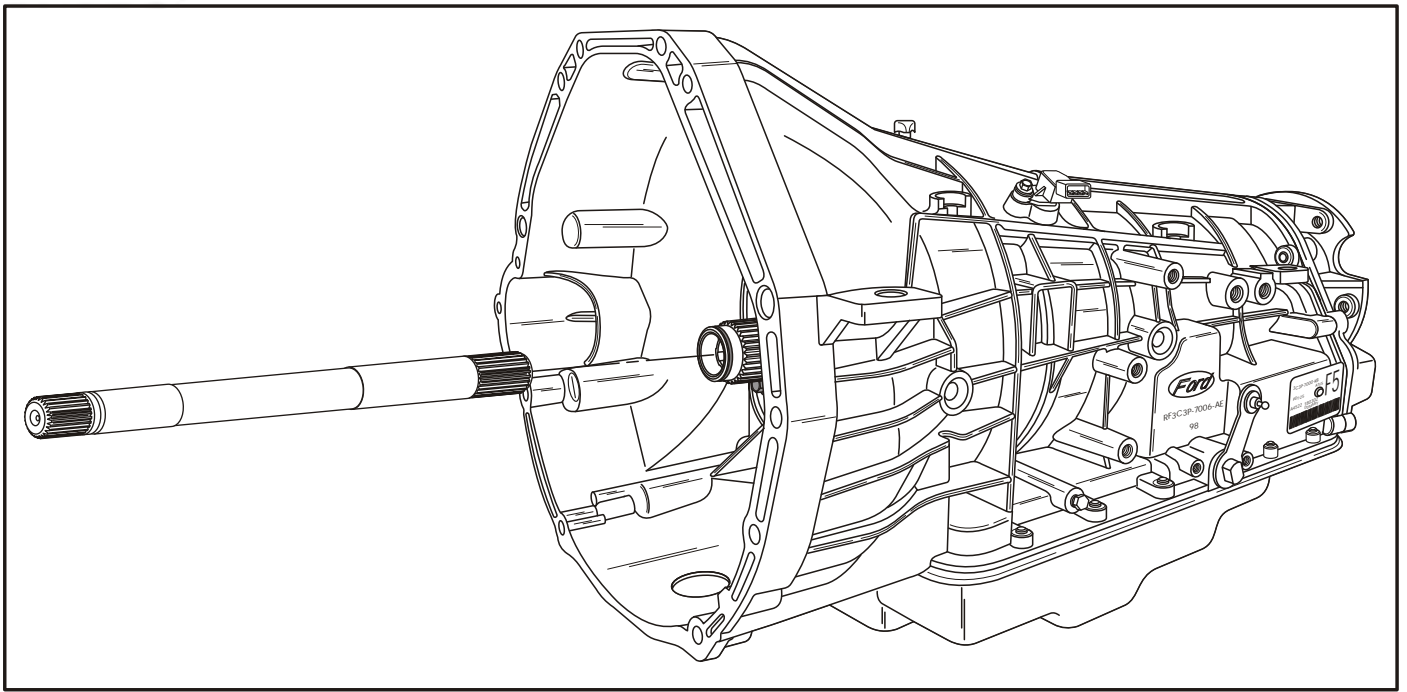

Figure 25
2. Remove the input shaft from transmission, as shown in Figure 25.